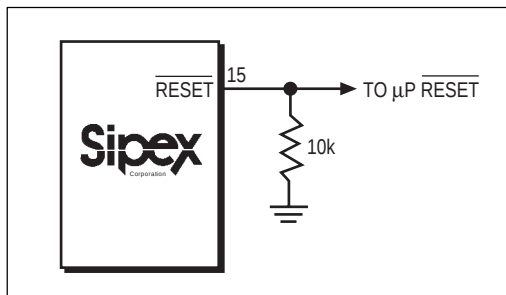

Figure 4. Adding an external pull-down resistor ensures $\overline{\text{RESET}}$ is valid with V_{CC} down to GND.
1.6mA at $V_{OUT} - 0.5\text{V}$. When no backup battery is used, $\overline{\text{RESET}}$ output is valid down to $V_{CC} = 1\text{V}$, and an external 10k Ω pull-down resistor on RESET ensures that RESET will be valid with V_{CC} down to GND as shown on *Figure 4*. As V_{CC} goes below 1V, the gate drive to the $\overline{\text{RESET}}$ output switch reduces accordingly, increasing the $r_{DS(ON)}$ and the saturation voltage. The 10k Ω pull-down resistor ensures the parallel combination of switch and external resistor is 10k Ω and the output saturation voltage is below 0.4V, while sinking 40 μA . When using a 10k Ω external pull-down resistor, the high state for the $\overline{\text{RESET}}$ output with $V_{CC} = 4.75\text{V}$ is 4.5V typical. For battery voltages greater than or equal to 2V, RESET remains valid for V_{CC} between 0V and 5.5V. RESET will be asserted during the following conditions: